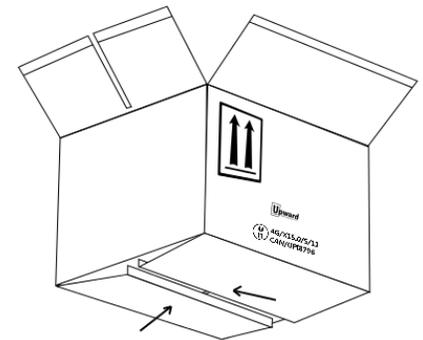
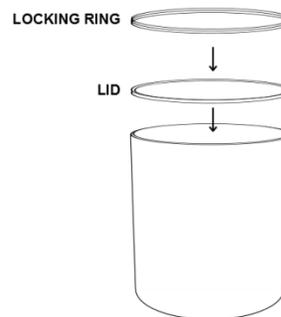

Figure 2
Figure 3
2. Fold 2 large side flaps on bottom of box. Tuck into side flaps to complete box bottom. (See Figure 2)
3. Seal center seam with one (1) strip of 48mm wide, 3M #305 clear packing tape (or equivalent). Extend tape beyond each edge by at least 3".
5. Align locking rings evenly over lids and by applying even pressure. Make sure rings snap into place. (See Figure 3)